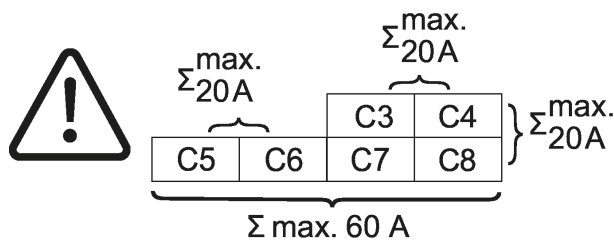

Figure 2: Current carrying capacity of neighbouring relay outputs
Current carrying capacity Σ neighbouring outputs	(see figure 2)
Current carrying capacity Σ C3 ... C8	(see figure 2)
- Observe the current carrying capacity of the load outputs (see figure 2).